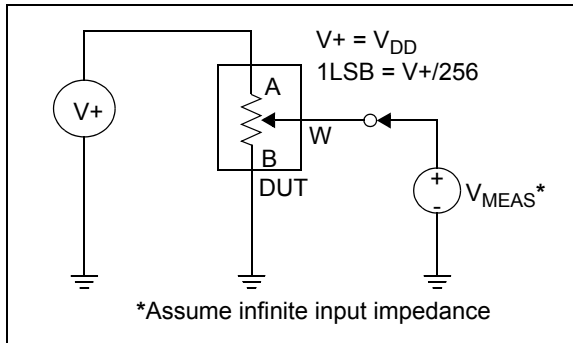

FIGURE 2-25: Potentiometer Divider Non-Linearity Error Test Circuit (DNL, INL).
- 3: INL and DNL are measured at V_W with the device configured in the voltage divider or potentiometer mode. $V_A = V_{DD}$ and $V_B = 0V$. DNL specification limits of ± 1 LSB max are specified monotonic operating conditions. See Figure 2-25 for test circuit.
- 4: Resistor terminals A,B and W have no restrictions on polarity with respect to each other. Full-scale and zero-scale error were measured using Figure 2-25.